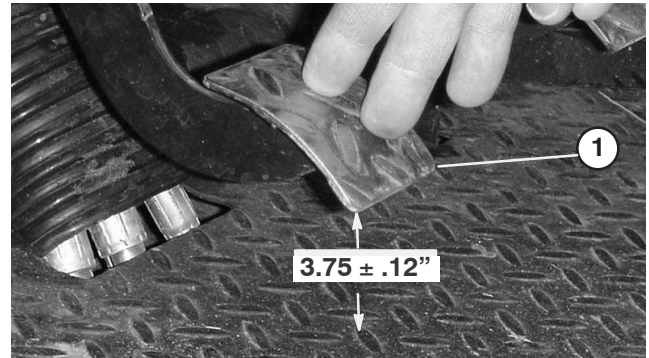

Figure 63
3. Adjust the jam nuts/or ball joint until the back rear edge of the clutch pedal is $3.75'' \pm .12''$ from the top of the floor plate diamond pattern, when an 4 lb. force is applied to the pedal (Fig. 63).